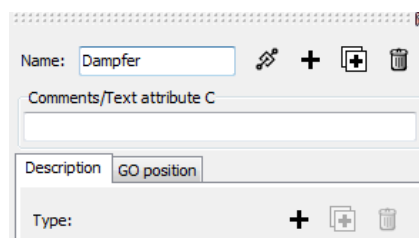

Figure 2.35.
5. Add a new graphic element (GE) by clicking the **+** at the lower panel (Figure 2.35).